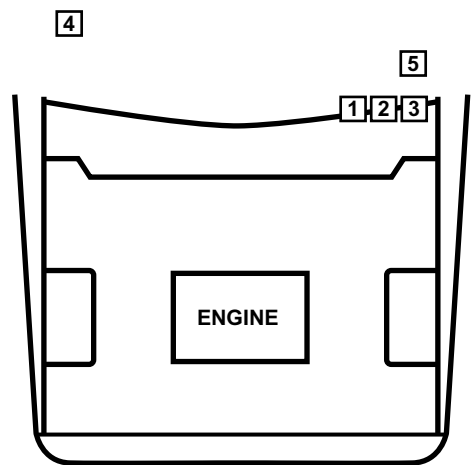

Figure 15-6 SVX common connector locations
- “SVX common connector locations” on page 179 (Table 15-6, Figure 15-6)